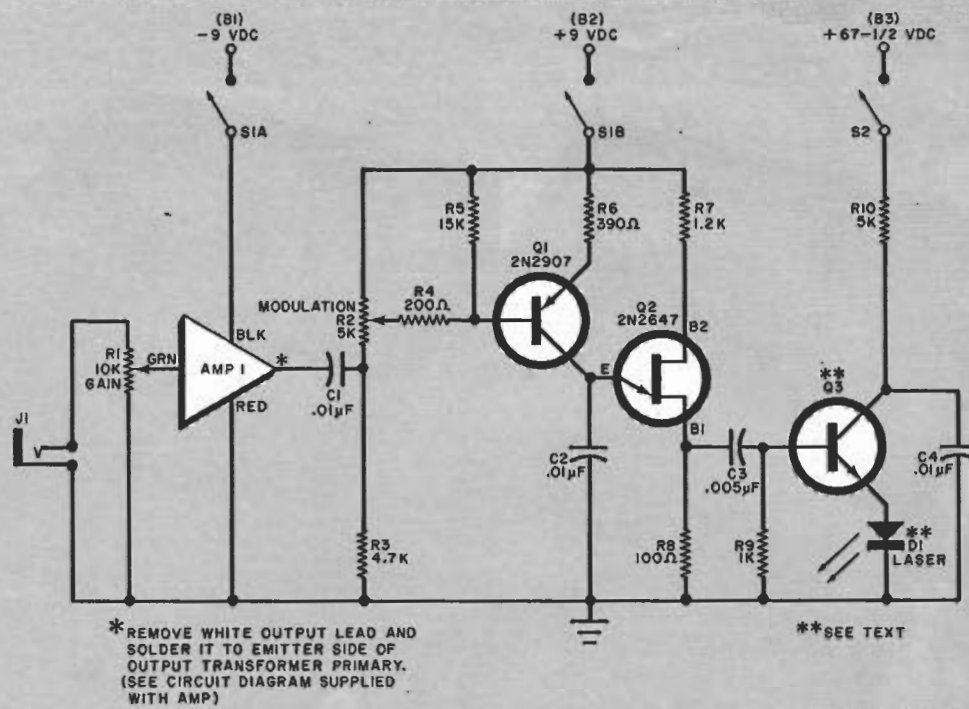

Fig. 1. A commercial modular audio amplifier modulates a UJT oscillator to drive the laser.
“Experimenters’ Laser” (December 1969). Many readers see what appears to be a discrepancy between Figs. 1(B) and 6 where none actually exists. Four resistors are shown in Fig. 6 for *R22-R24*, while only three are shown in Fig. 1; and the location of the junction between resistors to which *C12* is to be connected is in question. The difference between the two figures is explained on page 110 under the heading “Troubleshooting.” The figures are correct.
**Transmitter.** As shown in Fig. 1, a modular amplifier (AMP1) boosts the voice signals from a dynamic microphone. In a pulse-frequency modulator (Q1 and Q2), Q2 is a UJT connected in a relaxation-oscillator mode. With no input from AMP1, Q1 is saturated (with very low emitter-to-collector resistance) and Q2 oscillates at a frequency determined by the time constant of C2 and R6. When an input is present on the base of Q1, the frequency of Q2 is varied in direct proportion to the amplitude of the modula-